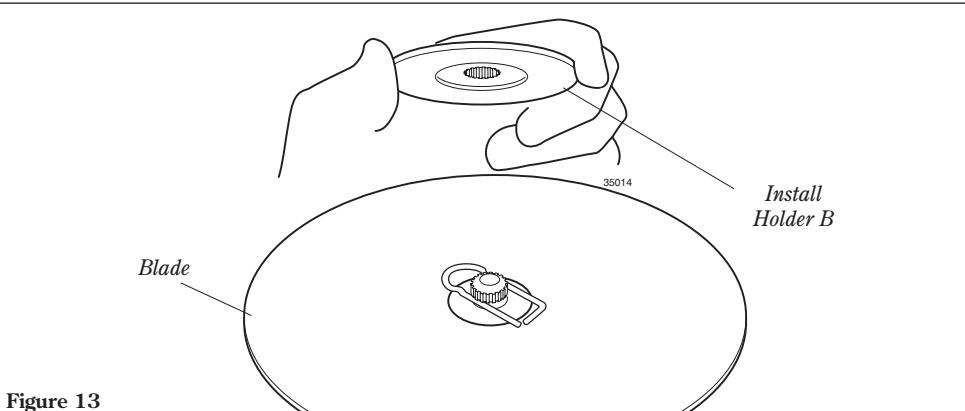

Figure 13
- Install Holder B on the gear case shaft. See Figure 13.